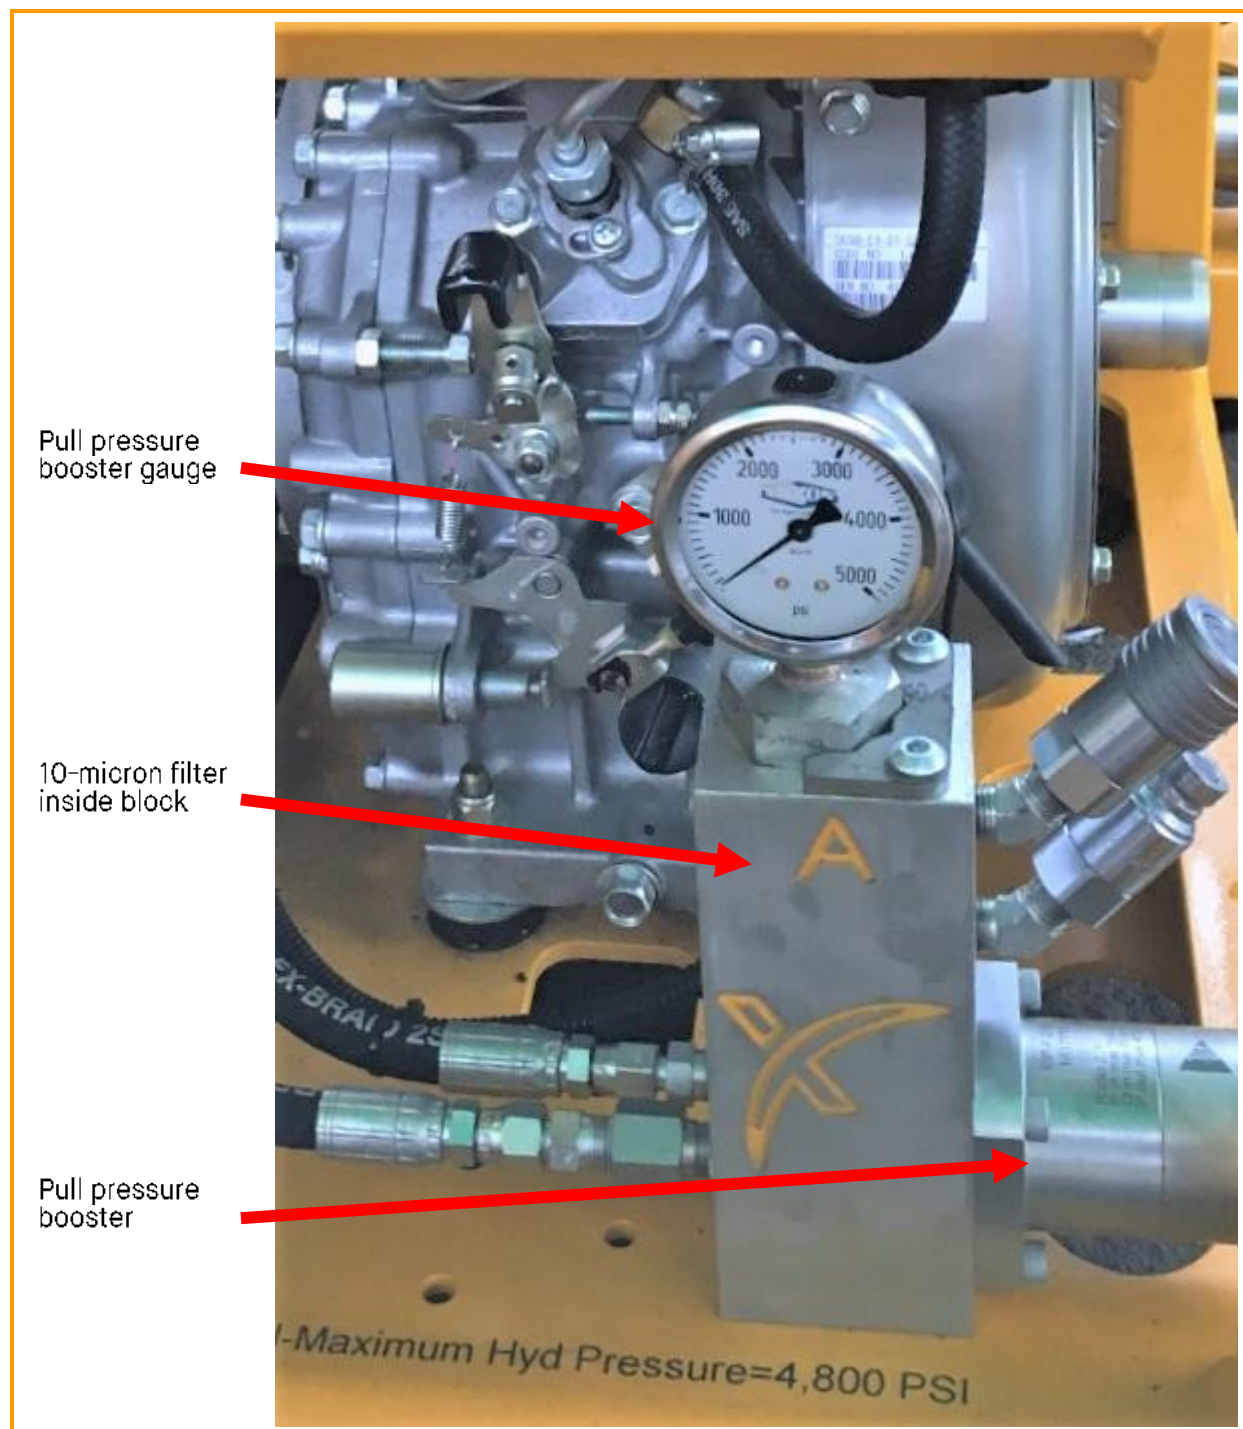

Figure 7-2. The booster block assembly and pressure gauge.
- Figure 7-2 shows the booster block assembly and pressure gauge; the NEXTracker HPU video gives more detailed information about the booster block shown in Figure 7-2.